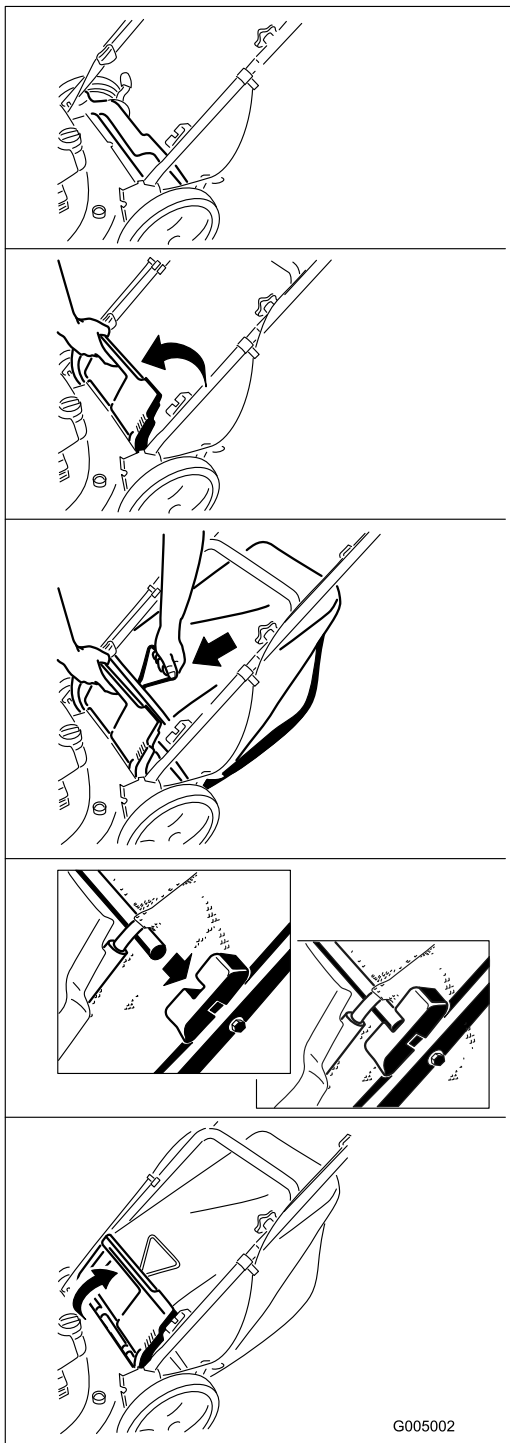

Figure 15
2. Install the grass bag (Figure 15).